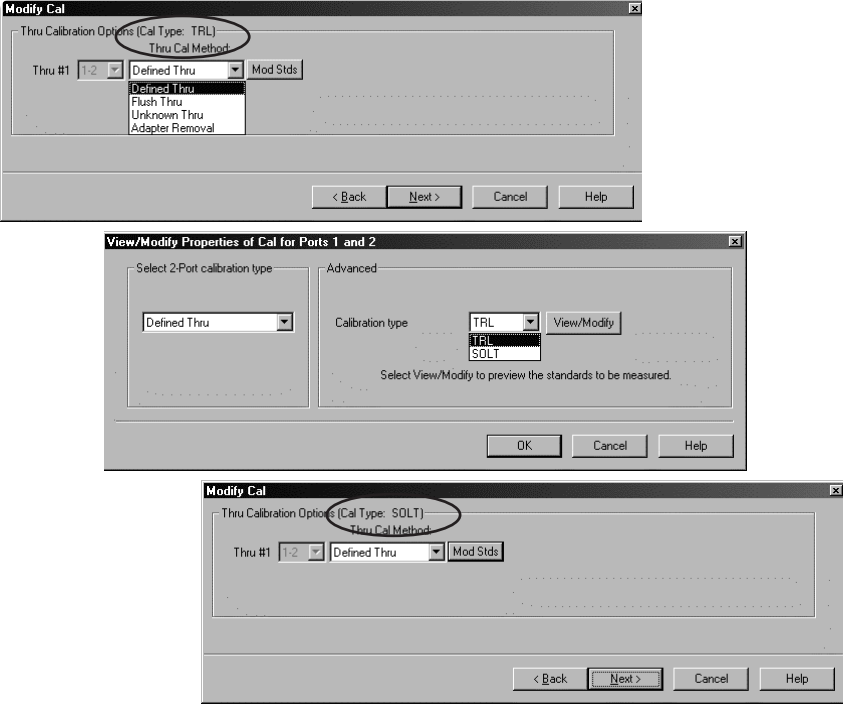

Figure 37. Changing *Cal Type*.
4. Use dropdown menu and then the scroll bar to select the DUT connectors (Figure 36, bottom). Also, use dropdown menu to select the available calibration kit based on the selected DUT connectors. Notice, the default **Cal Method** is **2-Port, Defined Thru, TRL**. Plus, if "Modify Cal" is not selected, then steps shown in Figure 37 will be skipped. Click **Next>**
5. Having selected “Modify Cal” allows you to change the *Cal Type*. Figure 37 (top) shows *Cal Type: TRL*, you can click **Mod Stds**, and then use the dropdown menu on the right to select a different cal type. Figure 37 (middle) shows the selection of **SOLT**. Clicking **OK** returns you to the previous screen, and this time it shows the *Cal Type: SOLT* (Figure 37, bottom).